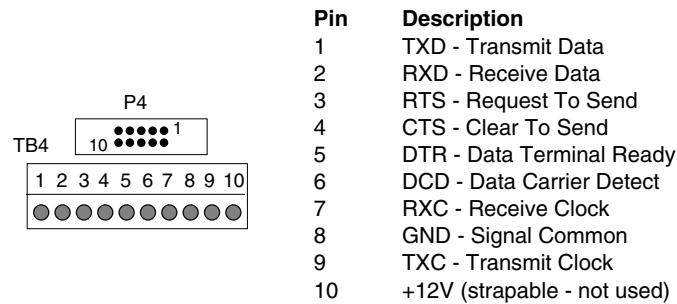
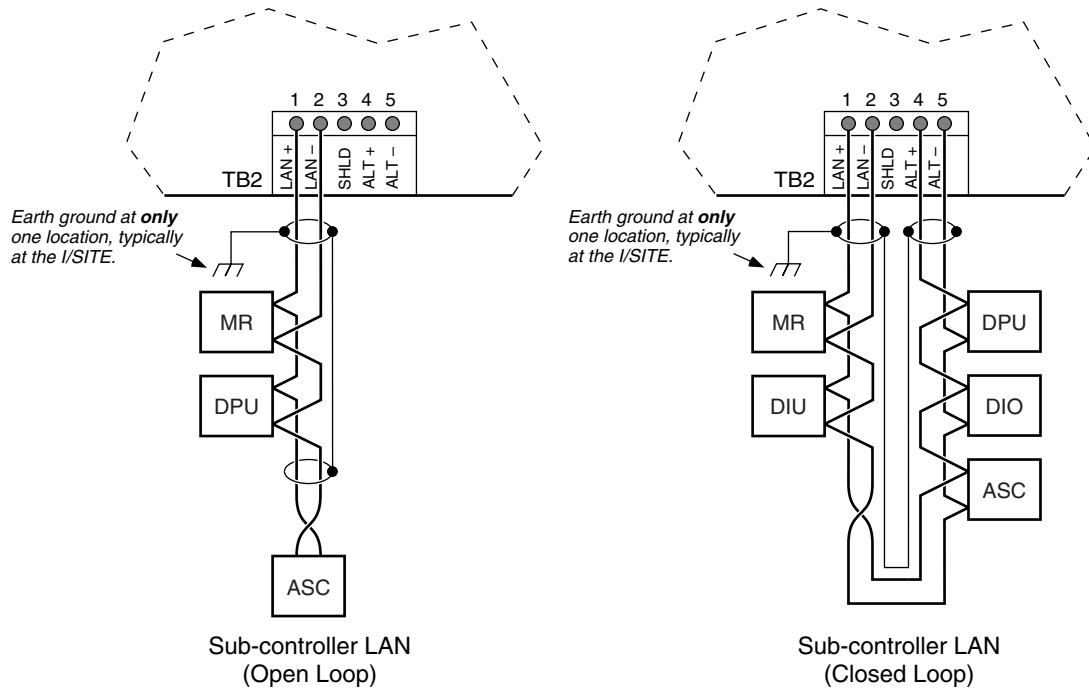

Figure 7. Port P4 and Terminal Block TB4 Connections
Figure 8. Sub-controller LAN Connection
Connectors P4 and TB4 allow you to connect an external Hayes-compatible modem to the 7798B. Both P4 and TB4 are the same serial port and only one connector should be attached to a modem. Port P4 provides a 10-conductor ribbon connector. Terminal block TB4 provides a direct wiring connection. Figure 7 shows each connector.
When the I/SITE LAN is set to emulate a 78035 Tap, the “Direct Connect” function (i.e., communication over continuously active data lines) is supported. Connect an external Hayes-compatible modem to port P4 or TB4 for this type of communication. Port P4 provides a 10-conductor ribbon connector. Terminal block TB4 provides a direct wiring connection. Figure 7 shows each connector. TAC cable number CBL048 (P/N 606105–0017) is available from TAC for connection to P4.
The I/SITE LAN sub-controller LAN can accommodate up to 32 MRs, DPUs, ASCs, or a combination of each residing on the sub-controller LAN (see Figure 8). A 5-pin terminal block provides the RS485, shielded twisted-pair cable connections on port TB2.
- ◆ Connect the shield drain wire directly to Electrical Service Earth Ground at **only** one end of the cable (e.g., typically at the I/SITE LAN). Refer to Figure 7 on page 12 and Figure 8 on page 14.